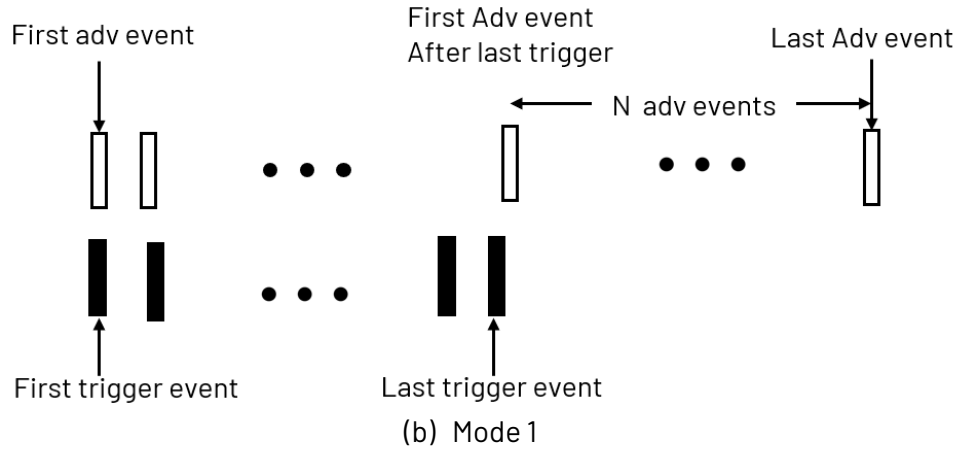

Figure 5 : Trigger modes
- Mode 0: After the event is triggered, the device begins to advertise with the interval specified. The device keeps advertising for a specified number of advertising events regardless the status of the current trigger event, as shown in *Figure 5 (a)*. After finishing the specified number of advertisings, the device will stop advertising and remain in sleep forever.
- Mode 1: After the event is triggered, the device begins to advertise with the interval specified. Different from mode 0, during every advertising wakeup, the device checks whether the sensor event is valid. After the last valid trigger event, the device keeps advertising for a specified number of advertising events as shown in *Figure 5(b)*. Advertising will continue until the sensor event is not present. After finishing the advertising, the device will be in sleep forever.